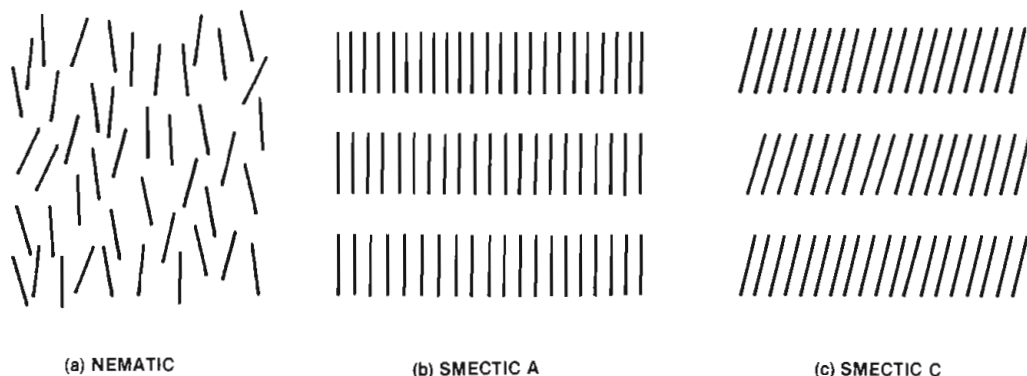
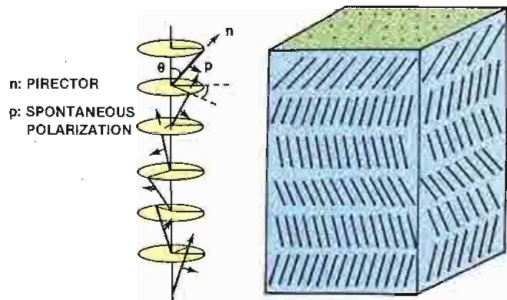

Figure 5. The molecular structure of the three most important classes of liquid crystals: nematic, smectic A and smectic C.
Figure 6. Smectic C liquid crystals have the potential of being ferroelectric and, therefore, suitable for LCDs.
Figure 5 contrasts the molecular structure of the three most important classes of liquid crystals: nematic (N), smectic A and smectic C. Neither nematic nor smectic A can ever be ferroelectric. Smectic C, however (see Figure 6), has the potential of being ferroelectric and is practical for LCD video displays.